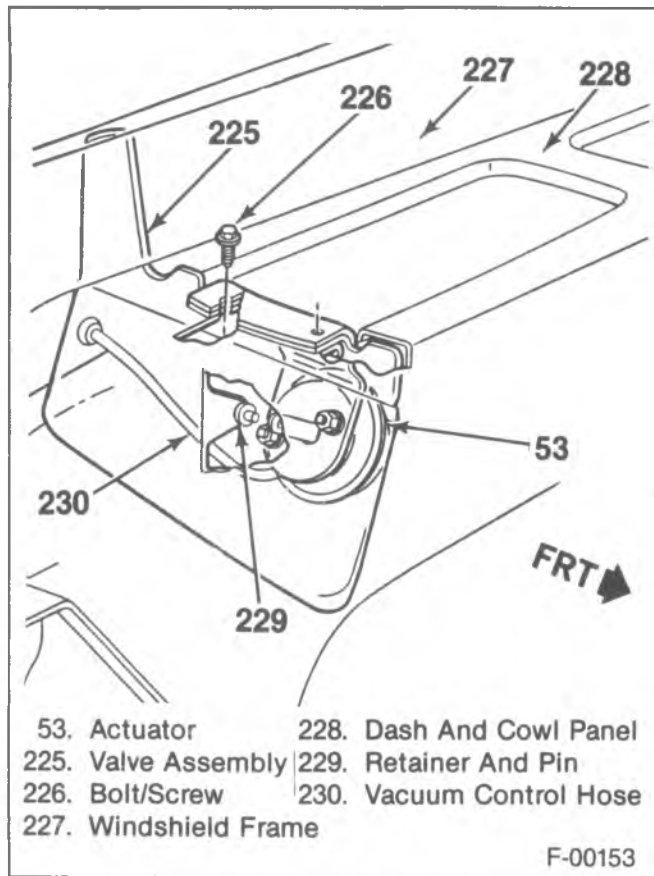

Figure 39—Plenum Air Inlet Door
↔ Remove or Disconnect (Figure 39)
- 3. Three cowl to valve assembly screws (226) (figure 39).
Install or Connect (Figure 39)